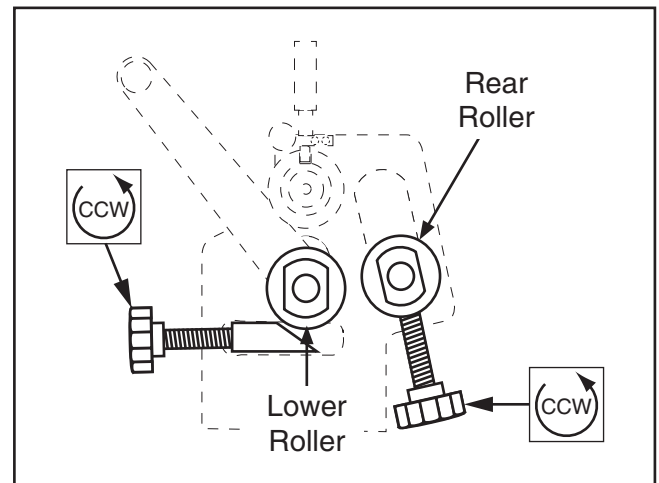

Figure 21. Slip roll preparation.
1. Turn thickness adjustment knobs to adjust lower roller to approximately 1/4" below top roller (see **Figure 21**).
2. Lower rear roller to lowest position (see **Figure 21**).